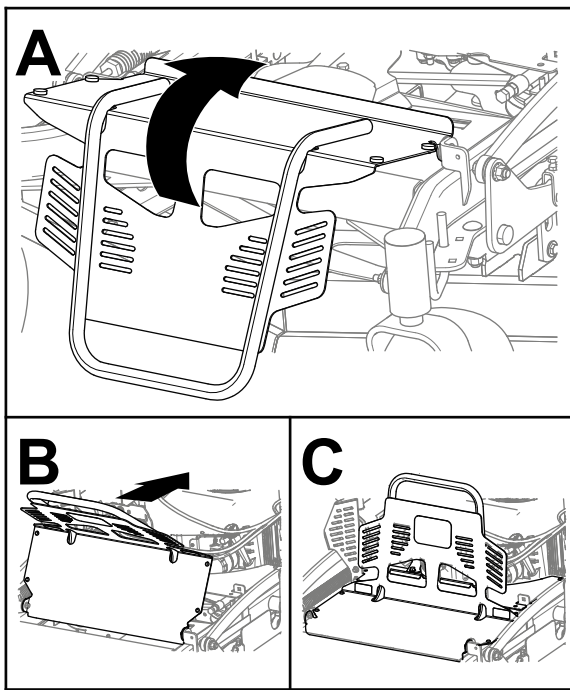

Figure 37
2. Rotate the engine guard back as shown in Figure 37.